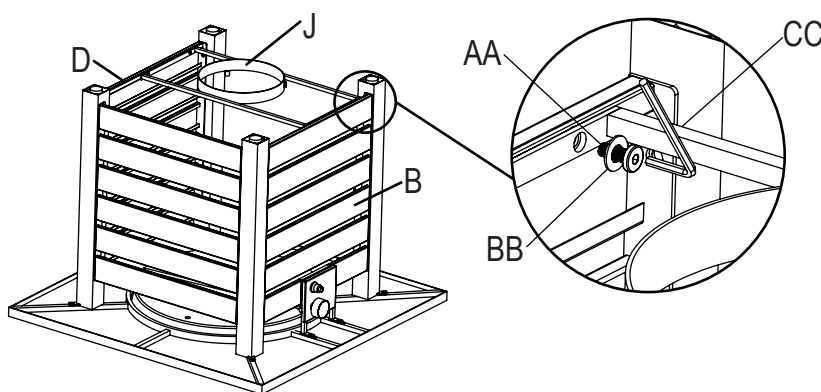

Figure 6
6. Attach gas cylinder support (J) to back panel (D) and front panel (B) with bolts (AA) and washer (BB) using hex screw driver (CC), (see Figure 6).